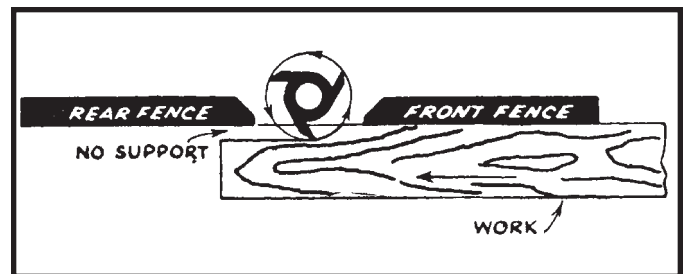

Fig. 58
2. When the shaping operation removes the entire edge of the work, e.g., in jointing or making a full bead, the shaped edge will not be supported by the rear fence when both fences are in line, as shown in Fig. 58. In this case, the work should be advanced to the position shown in Fig. 58, and stopped.